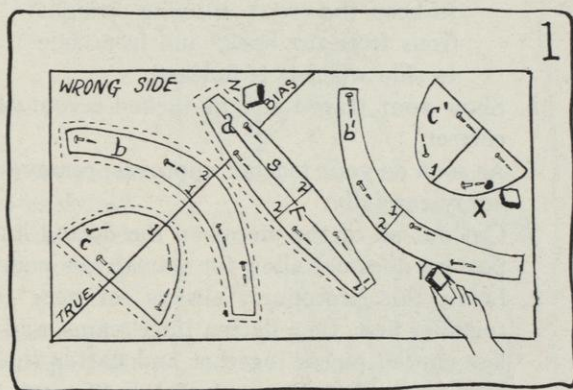

FIG. 1.
The popularity of section crowns is ever increasing. This is perhaps due to the fact that soft hats are used more and more. It is much easier to obtain definite lines in a crown, and to make the crown fit well when small sections are used, than when the crown is made of two or three shaped, blocked, or bias pieces. In this job you will learn how to put together a sectional crown like the one shown in Figure 1 of Job 47 (page 191).
- b. Draw a chalk line on the true bias (see Figure 1).
- c. Place and pin all of the pieces of the pattern on the wrong side of the material, so that the center crease in each is either parallel to or is on the chalk line (see Figure 1). Be sure to leave $\frac{3}{4}$ inch between each piece, as these patterns do not allow for seams. You are about to cut these sections bias because they are so curved that, when they are bias, it is easier to fit them to the block.
- e. As soon as your teacher approves, trace just outside and as close as you can get to each piece of the pattern, with marking chalk (see points Y and X, Figure 1).
- f. Put a dotted line $\frac{3}{8}$ inch away from chalked outline (see point Z, Figure 1).
k. Learn this procedure: always set very curved pieces together first, then flatten their seams, and then put the less curved pieces together and flatten their seams. In this crown (see Figure 1 of Job 47, page 191) you will first set together sections *b* and *c*, then *b'* and *c'*, before attaching them to section *a*.